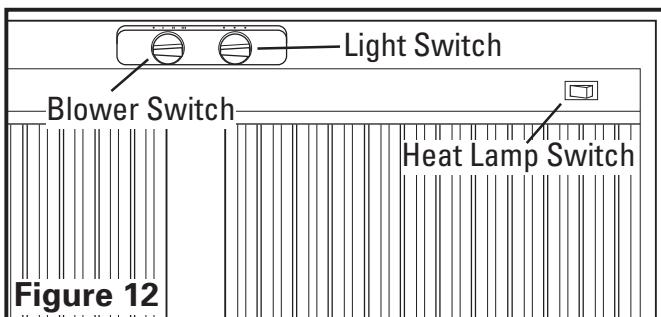

Figure 12
Heat Lamp Controls: For models equipped with heat lamps, two On/Off rocker switch are located on the front underside of the hood for independent control of the heat lamps (Figure 12).
Your Range Hood is equipped with two rotary switches with one controlling the lighting and the other controlling the exhaust fan blower. The light switch has three positions, HIGH (●), LOW (◐), and OFF (●). The fan switch has four positions, OFF (●), HIGH (I), MEDIUM (II), and LOW (III) (Figure 12).